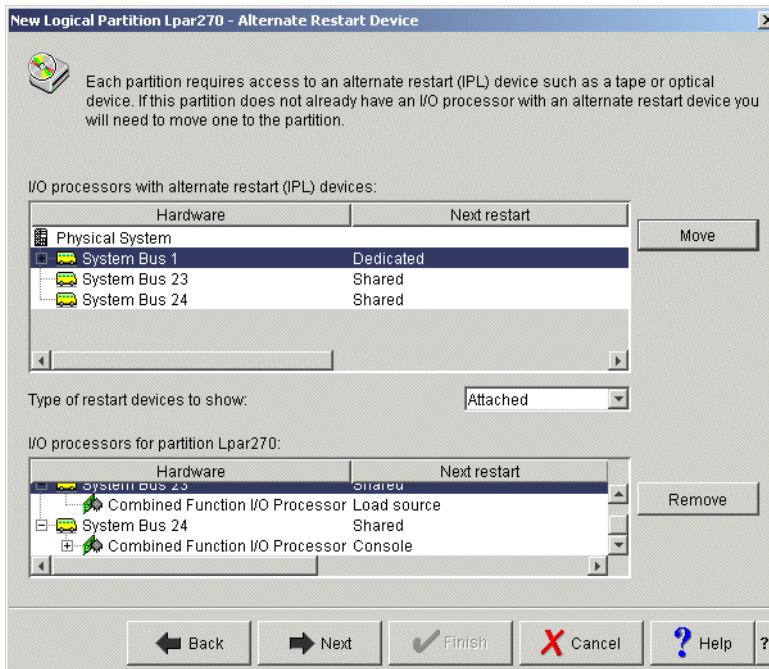

Figure 4-23 New Logical Partition - Alternate Restart Device window
19. The New Logical Partition - Alternate Restart Device window appears as shown in Figure 4-23. At the bottom of this window, you can see that both the load source and console are there.